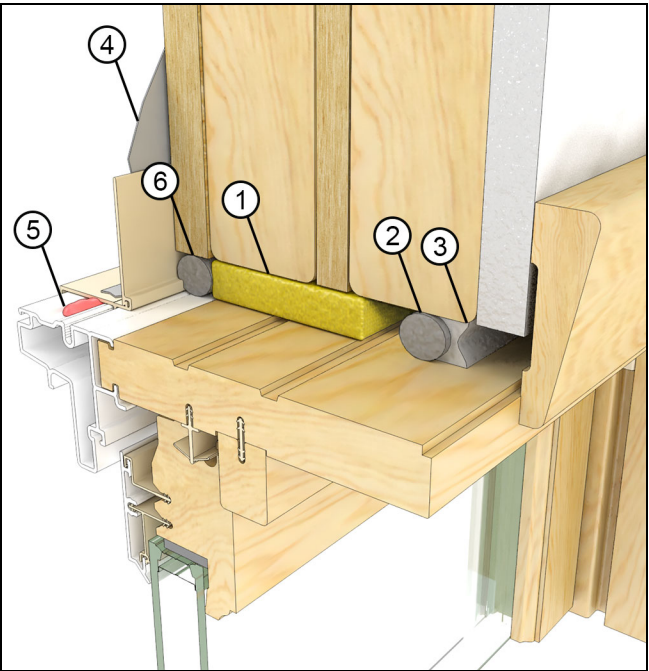

Figure 40
2. Low Expansion Foam. Install a backer rod at the exterior plane of the RO. Apply a low expansion/low compression closed cell foam in the cavity. Install a backer rod and sealant at the interior plane of the RO to create a continuous air seal. See Figure 40.